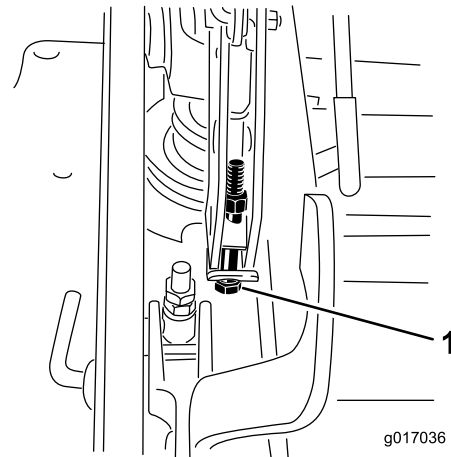

Figure 91
13. If the deck is too low, tighten the single point adjustment bolt by rotating it clockwise. If the deck is too high, loosen the single point adjustment bolt by rotating it counterclockwise (Figure 91).